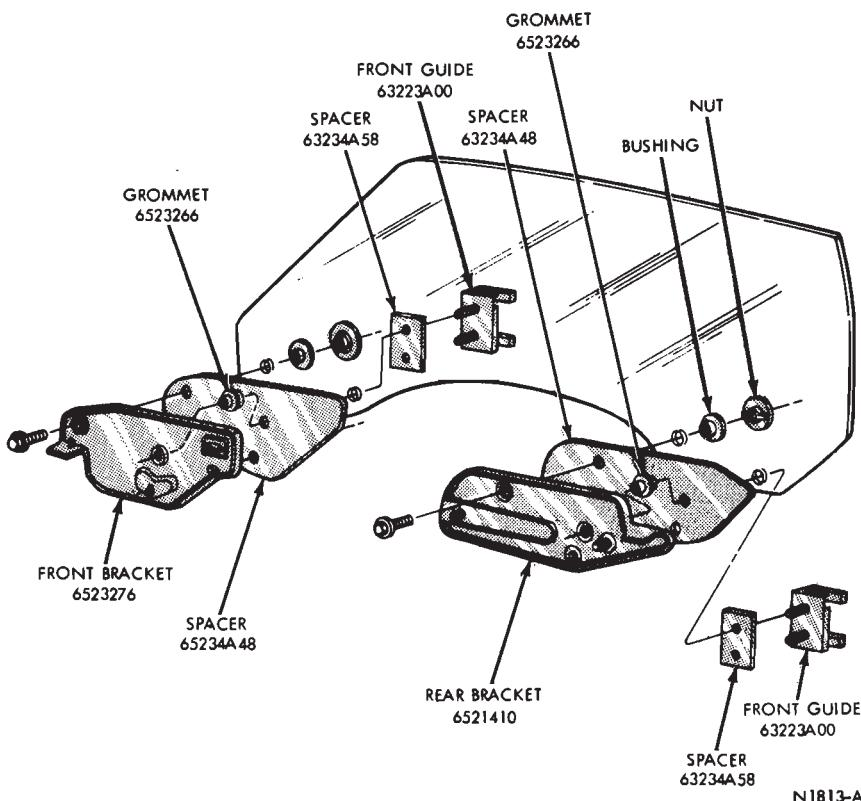

FIG. 18—Front Door Glass—Bolt-On Type—Fairlane and Montego
9. Place the glass and bracket assembly on a bench and remove the nuts, bolts and neoprene bushings from the glass and bracket (Fig. 18). Remove the brackets from the glass and remove the rubber spacers from the brackets and discard the spacers. Also, remove and discard the spacers from the window guides.